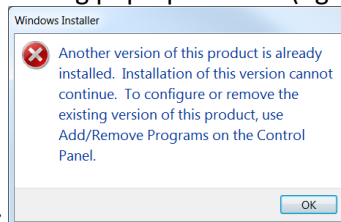

Figure 5:
2. If your workstation replies with the following pop-up window (fig.5):